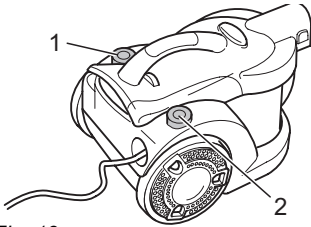

Fig. 13
1. Switch off the cylinder vacuum cleaner with the on/off switch (Fig. 13/1) and pull the plug from the mains socket.
3. Push the cord retracting button (Fig. 13/2) to retract the power cord.